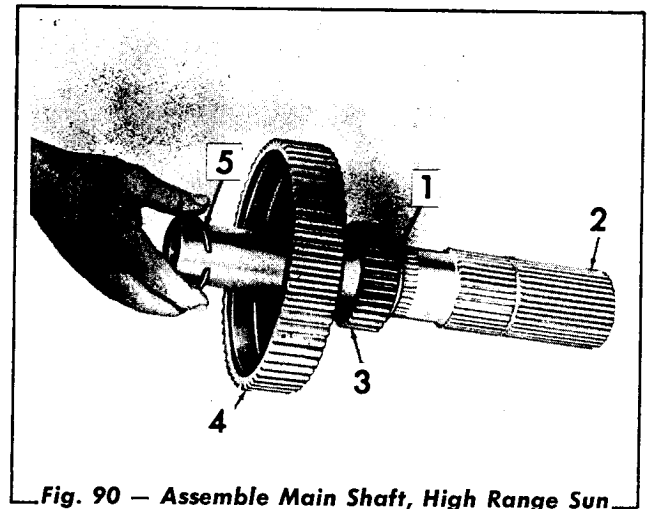

Fig. 90 — Assemble Main Shaft, High Range Sun Gear, and Intermediate Range Clutch Hub
6. Install the snap ring (Fig. 90) on the transmission main shaft. Install the high range